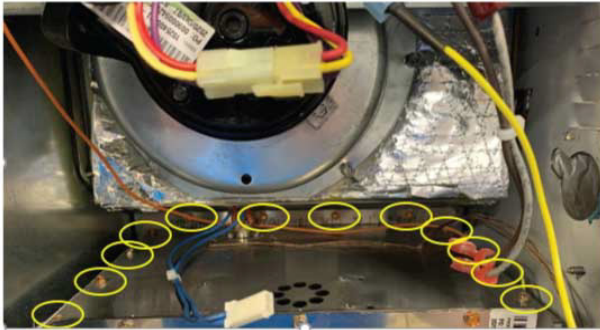
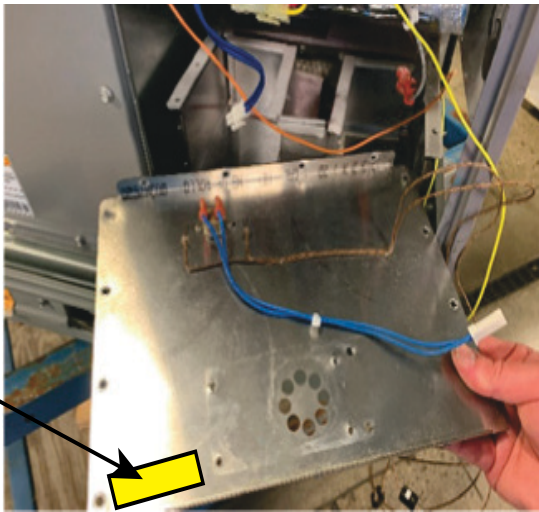

Fig. 16 – Removing Top Cover Screws
Fig. 17 – Top Cover Removed
5. Remove 12 screws highlighted in Fig. 16 and remove the top cover of 90k Burner Box shown in Fig. 17. Apply Burner Thermal Switch Label on top cover shown in Fig. 17.